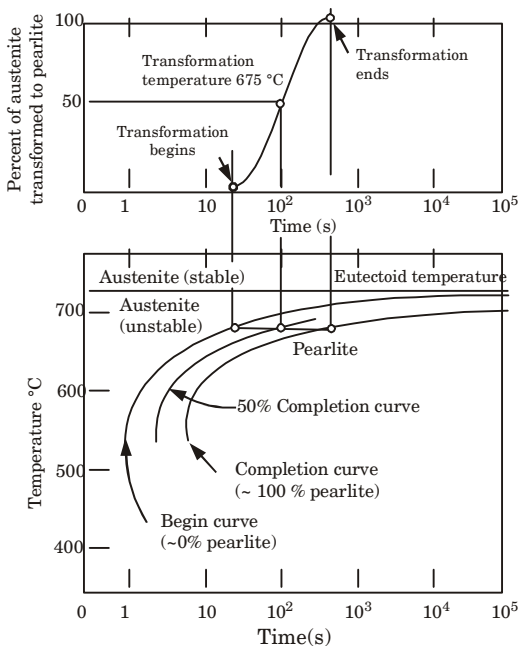

Fig. 11. TTT diagram.
5. In the (Fig. 11) transformation of austenite to pearlite is shown. The left most C-curve shows the starting of transformation of austenite into pearlite.